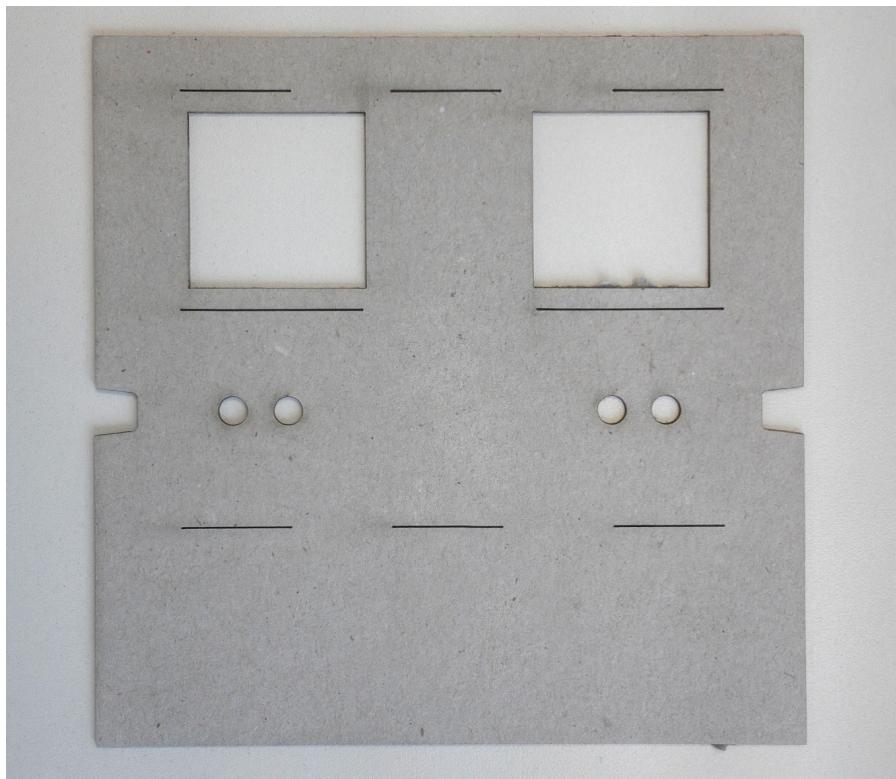
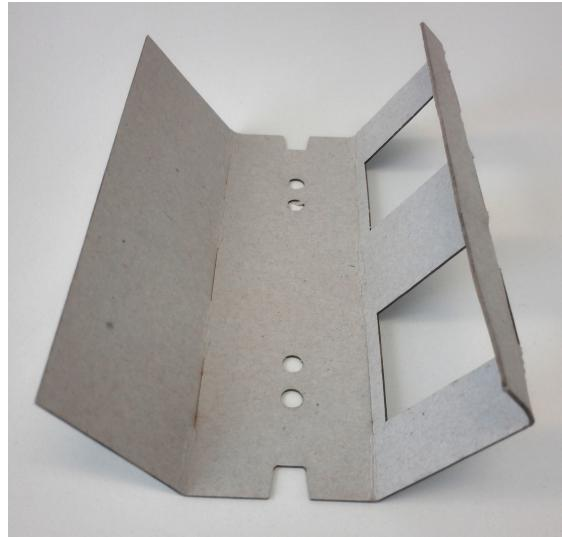
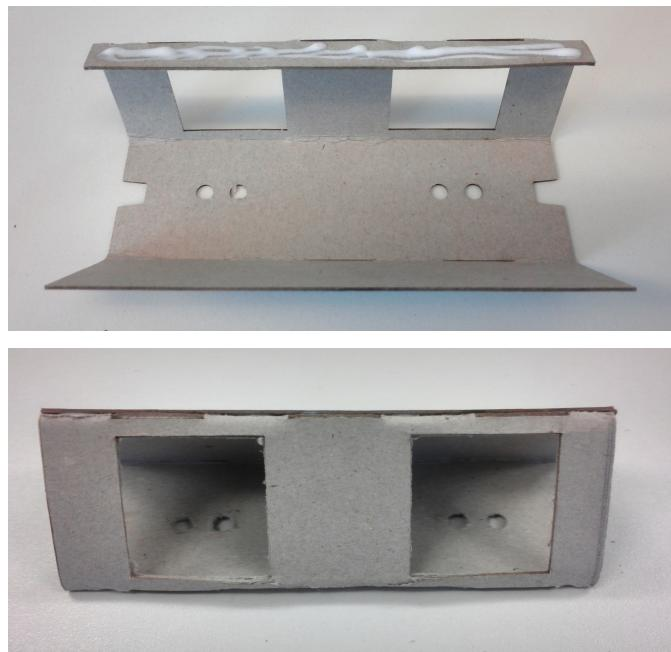

Figure 1.0.6: Part B
Figure 1.0.7: Creased edges of part B
Figure 1.0.8: Glueing the connecting link to other end of the part B
3. Continue with part B (see figure 1.0.6). In this step, you should also bend all the creased edges (Figure 1.0.7). Glue the connecting link to the other end of part B, creating a triangle like on figure 1.0.8.